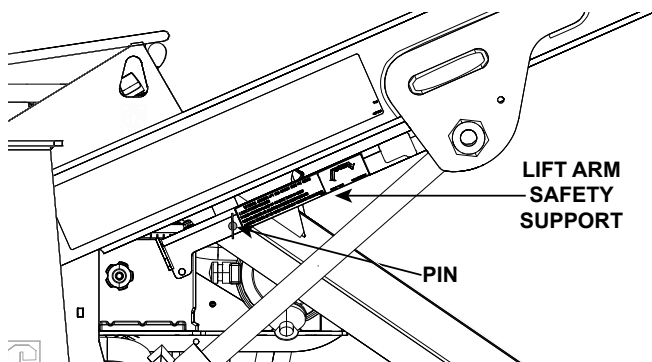

Figure 6-2. Lift Arm Safety Support
2. Remove any attachment and raise lift arms to the maximum height. See Figure 6-2.